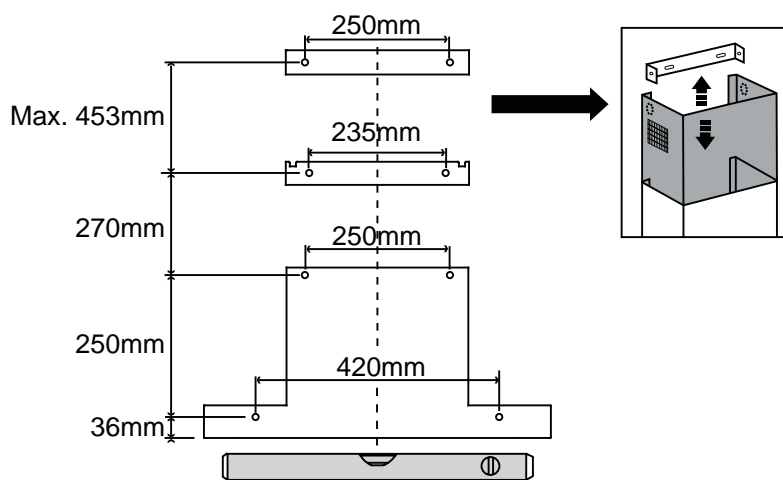

Fig 3.
- With reference to fig 3, mark and drill the six holes required to fix the chimney bracket to the wall, using a 6 mm diameter drill.